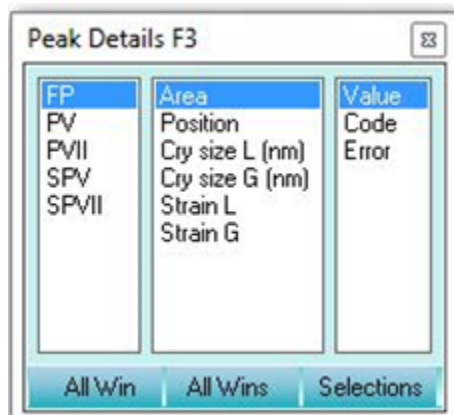

Figure 8. Peak Details Window
2. The 'Peak Details' window pops up (Figure 8). The Peak Details window controls the displayed peak label information. The left column has 5 different fit models: 'FP', Fundamental Parameters, is the only model that uses instrument parameters; the other models are purely mathematical fits assuming nothing about the instrument. The middle column changes what information is displayed: peak position, area, crystal size, and strain. The right column determines how the information is displayed, ie a numerical value, a fixed or refined text label, measurement error. Set the peak details parameters.